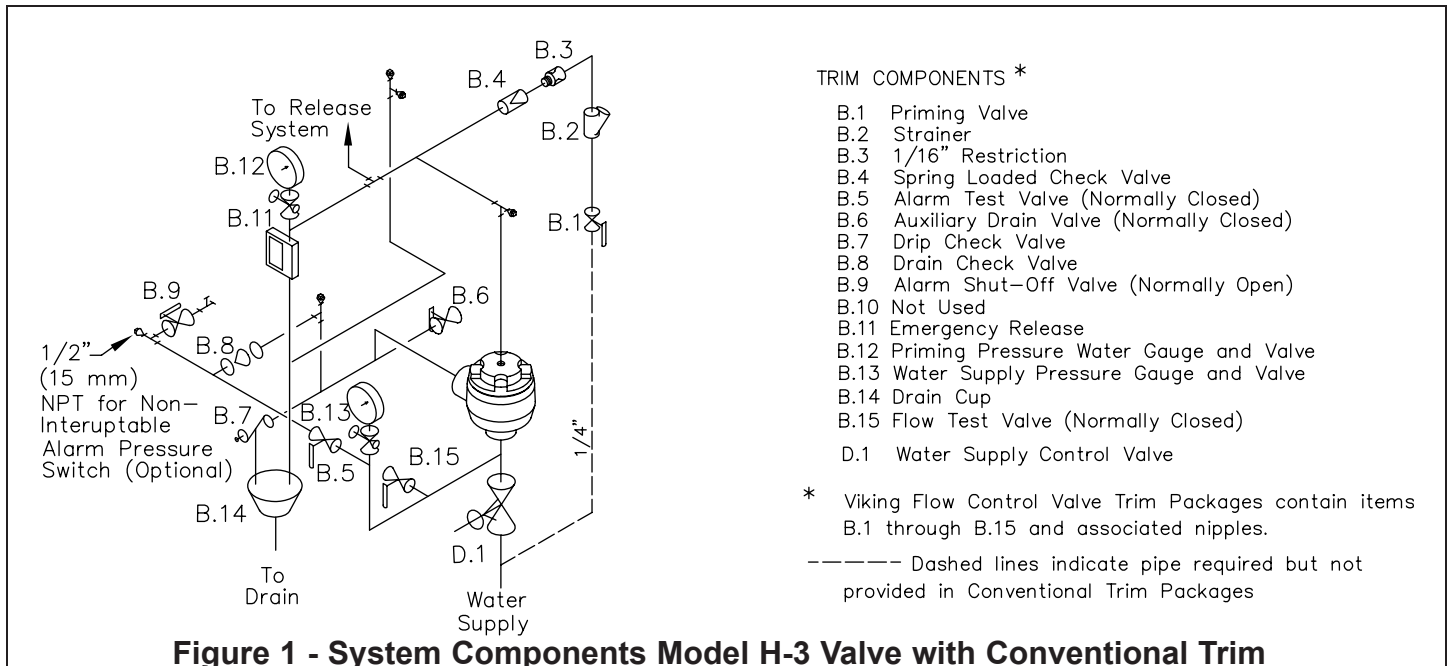

Figure 1 - System Components Model H-3 Valve with Conventional Trim
B. Placing the Valve in Service (Refer to Figure 1)
C. Automatic Resetting (Refer to Figure 1)
6. INSPECTIONS, TESTS AND MAINTENANCE (Refer to Figure 1)
C. Maintenance (Refer to Figure 1)